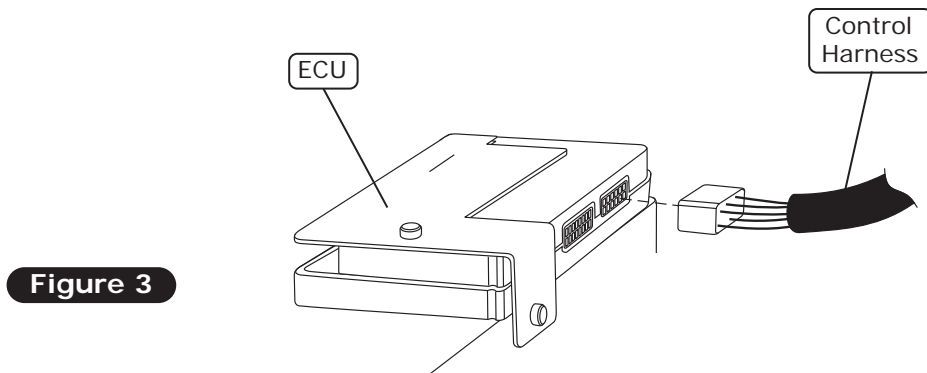

Figure 3
4. Plug the control harness into the ECU module on the sub case as shown in Figure 3, below.